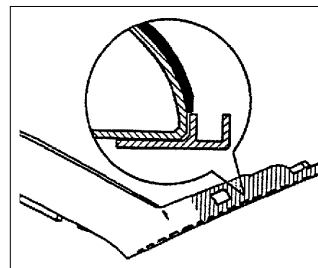

Figure 4
Solution c, wider roof frame: A work Procedure is in preparation and the parts will be available at a later date (Figure 4).
- Clean the area of the roof frame for gluing purposes (Figure 4 in the area of the hatch marks).
- Line up the widening piece on the cut-out for the top bolts and move the widening piece to the rain gutter (Figure 4 detail).